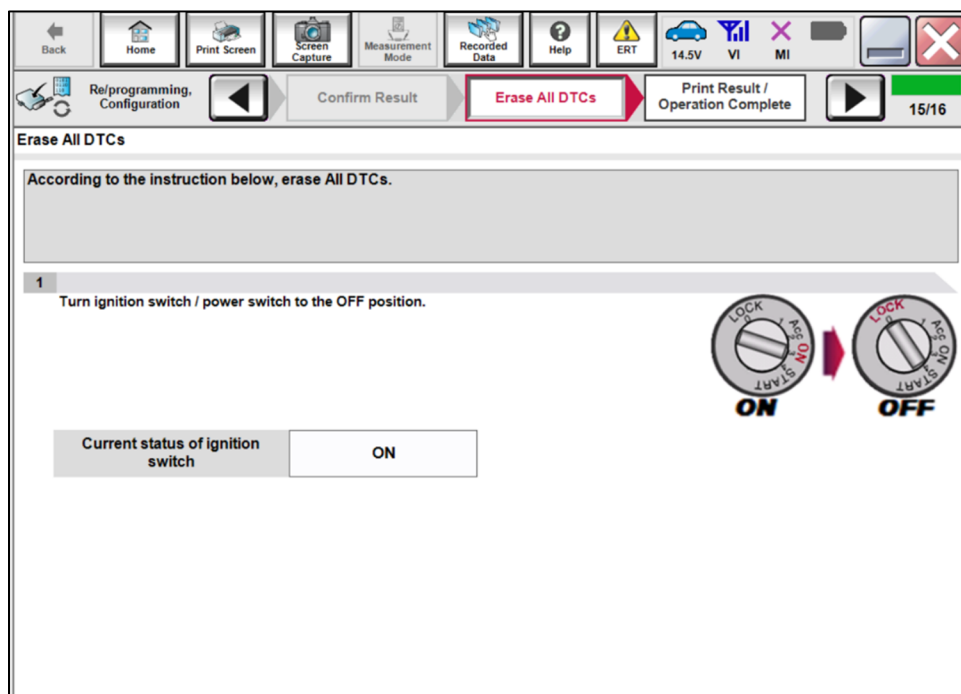

Figure 18
24. Press the power switch one (1) time to turn the EV system OFF (Figure 18), then go to step 25 immediately.